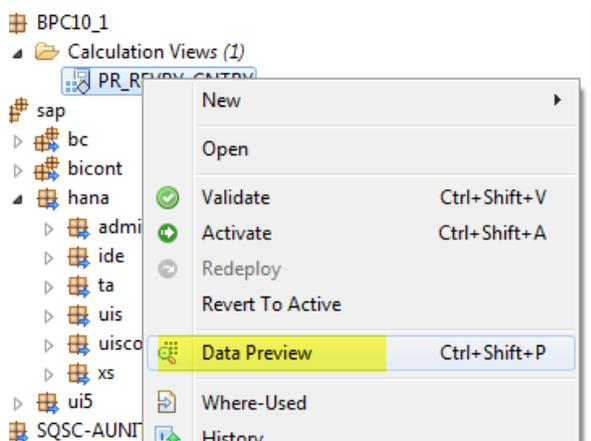

Figure 20 – Select Data Preview
1.13 **Preview the data from calculation view** – After activating the calculation view, you can preview the data from the calculation view by right clicking the calculation view and selecting the 'data preview' option as shown in Figure 20. In the data preview, you can see the data by clicking on the 'raw data' tab'. The data that you see in this preview will be available for planning. A sample data preview is shown in Figure 21. This step completes the configuration required within the Hana studio.